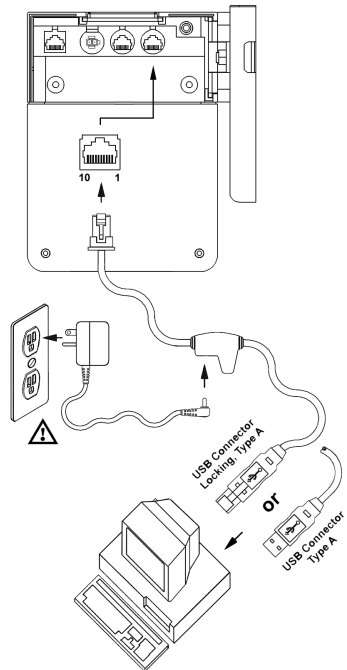

Figure 4b: USB, Interface
5. Connect the PowerLink cable to the 10-pin USB interface jack. It is the 2nd round opening from the left side of the MS7220 (see figure 4b).